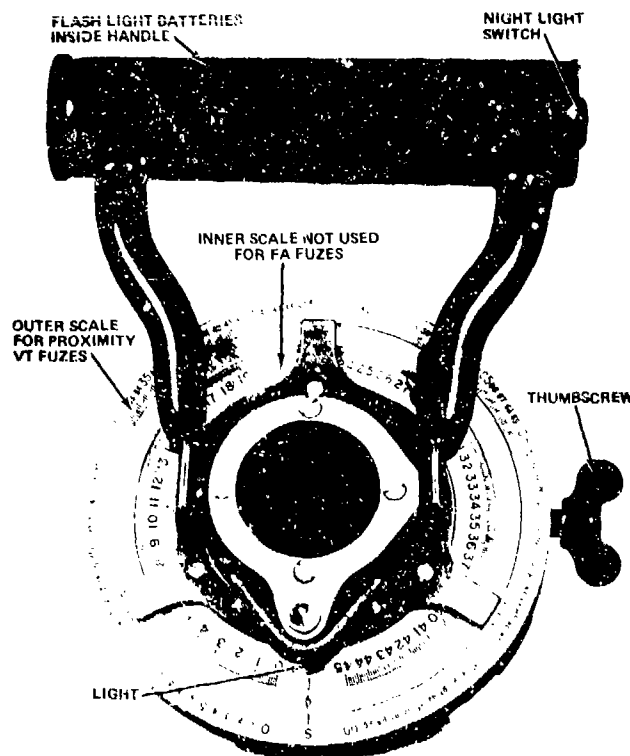

Figure 11-39. Fuze setter M28.
(1) *Fuze setter M28.* Fuze setter M28 (fig 11-39) is similar to precision fuze setter M26 except that it has a 100-second time ring on its outer scale. The fuze setter must be turned in a clockwise direction to set the VT fuze. Place the time on the outer scale of the M28 fuze setter and lock the ring in place with the thumbscrew. Place the fuze setter on the nose of the fuze and rotate the setter in the clockwise direction until it stops. Then remove the setter. The setting on the fuze setter should be checked with the setting on the fuze to insure that they agree. Be sure that the fuze remains flush with the nose of the projectile; however, this is not normally a problem, because this fuze is set clockwise and does not tend to back out of the fuze well. Instead, the fuze tends to be tightened in the fuze well when the M28 fuze setter is turned clockwise to set the time. The M28 fuze setter is not used with the 150-second time ring of the M732 fuze and is no longer being issued, but is being replaced by the M27 (fig 11-19).